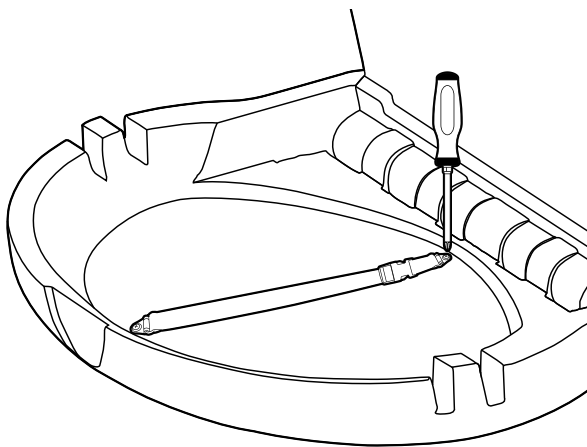

Fig. 1
- Take the new strap and lay it on the unit. Position the strap so that the short end of the strap is towards the back of the unit. **Fig. 1**